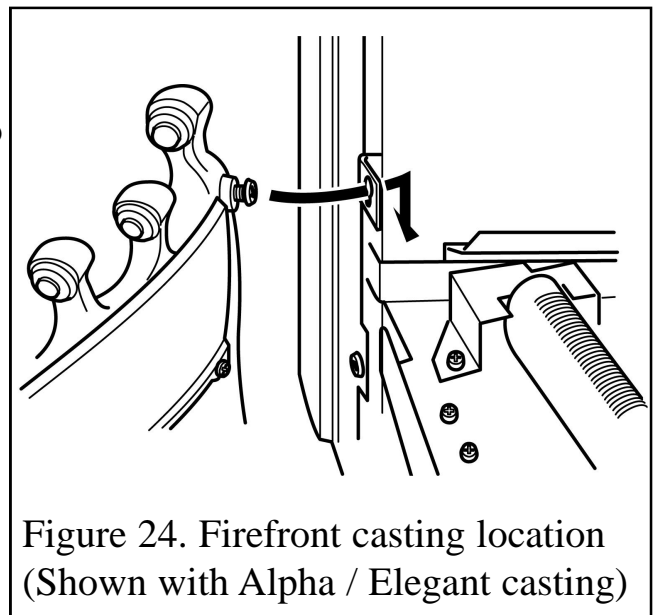

Figure 24. Firefront casting location (Shown with Alpha / Elegant casting)
1. Fit the fire front casting to the fascia. Locate the two screw heads at the rear top corners of the casting through the keyhole slots at the inner sides of the fascia. If the screw heads do not project enough or project too far, the screws can be adjusted. Lower the casting so that it rests on the hearth (See figure 24).
2. Locate the two screw heads through the keyhole slots at the inner sides of the fascia. If the screw heads do not project enough or project too far, the screws can be adjusted. Lower the casting so that it rests on the hearth (See figure 24).